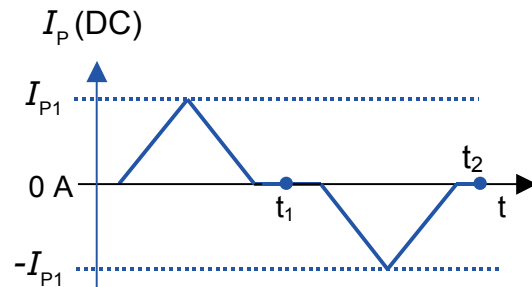

Figure 9: Current cycle used to measure magnetic and electrical offset (transducer supplied)
- or in a known magnetization state, like in the current cycle shown in figure 9.